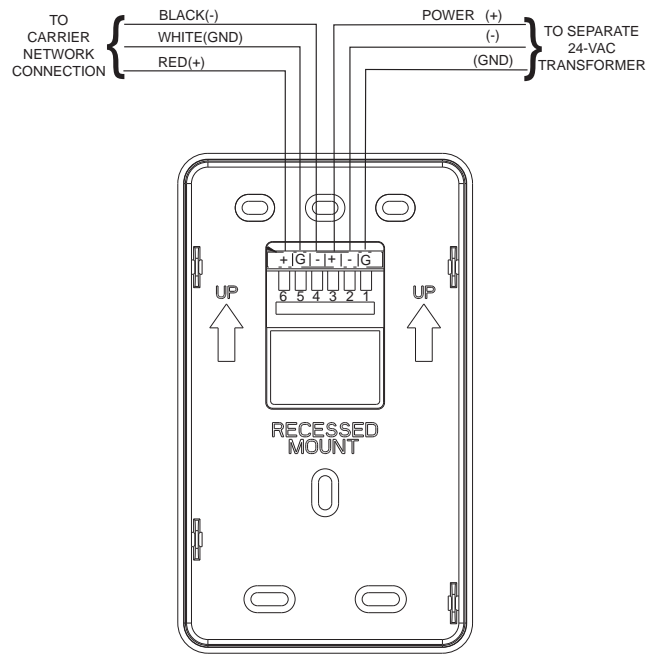

Fig. 10 — System Pilot Wiring
- f. Refer to Fig 10 for the System Pilot™ device wiring. Once the System Pilot device is powered up, it will display the time of day and space temperature. Refer to the System Pilot Installation and Operation manual for programming to attach the sensor to the PremierLink control.